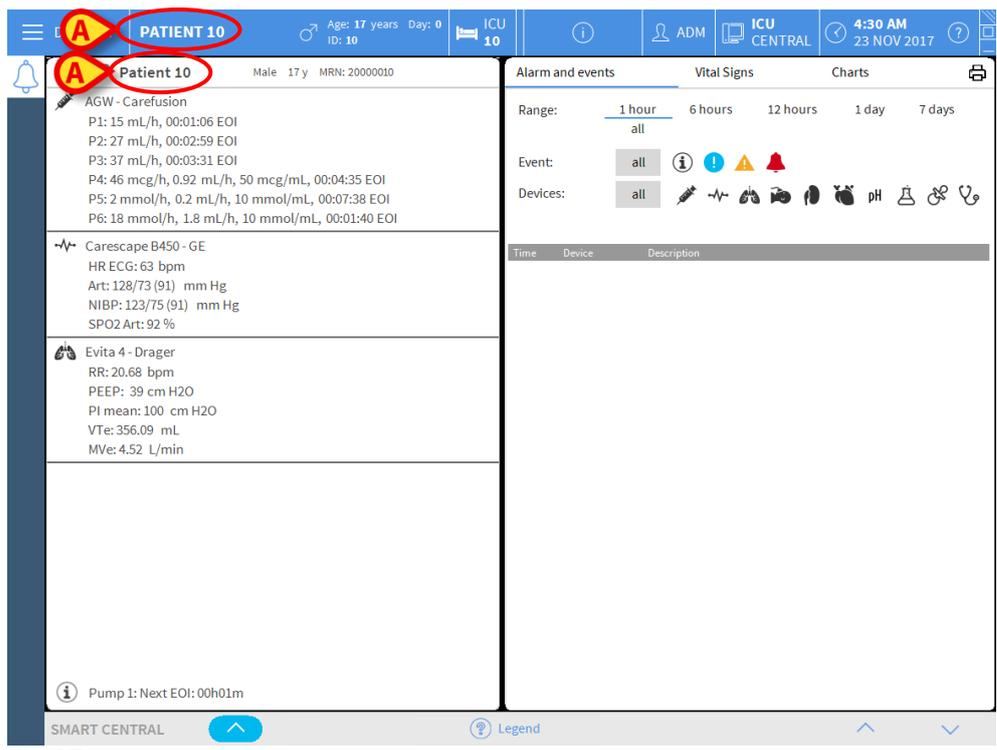

Fig 97
- Click **Yes** to admit the patient. The Digistat Smart Central screen related to that patient is then displayed. A temporary name is automatically assigned (Patient 10 - Fig 97 **A**)